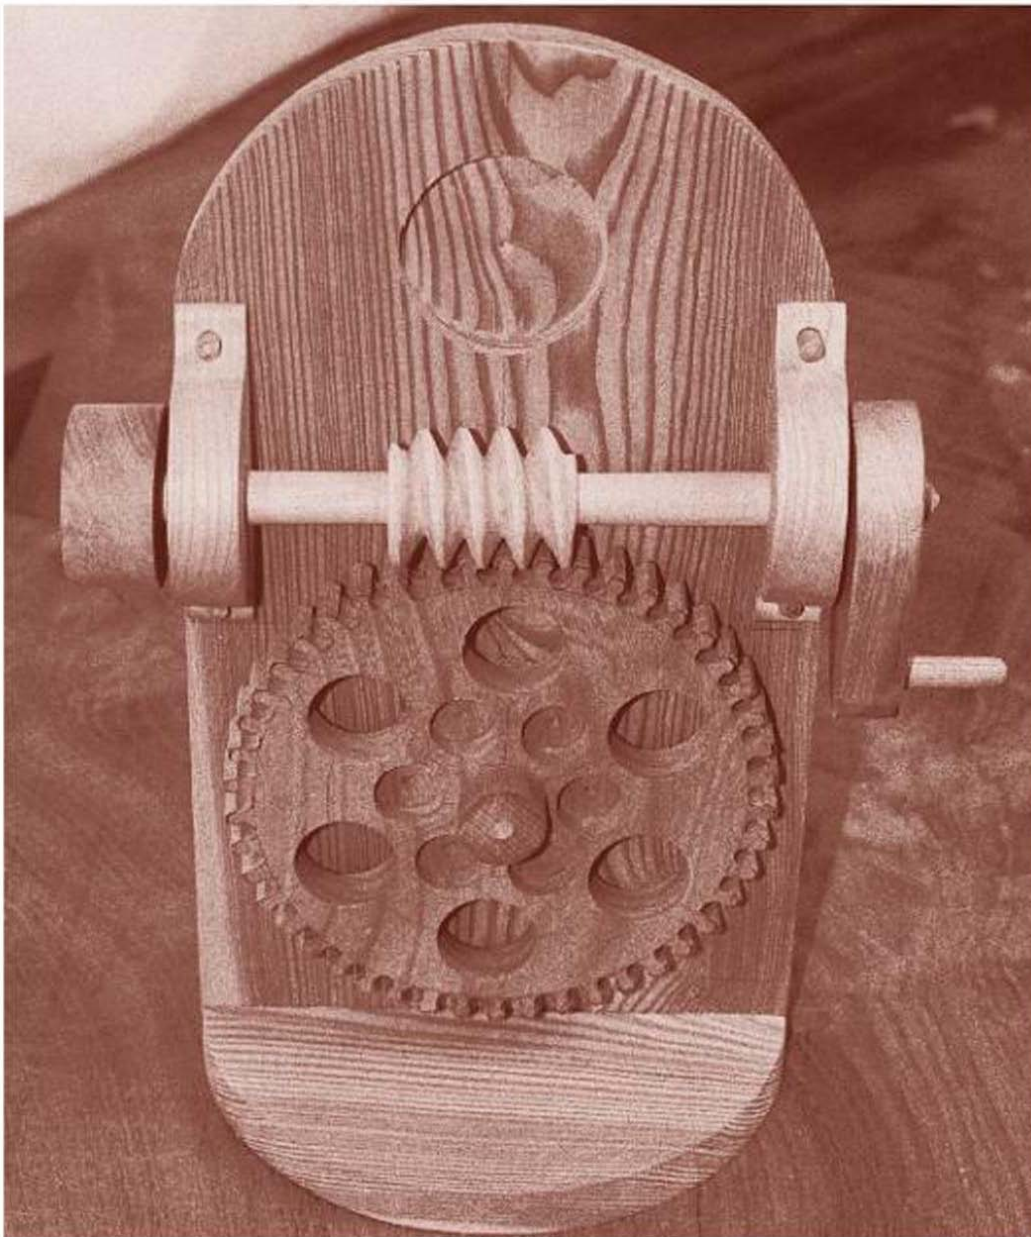

FIGURE 20-16
- 5** Set the backboard in the base channel and check it over for fit (Figure 20-16).